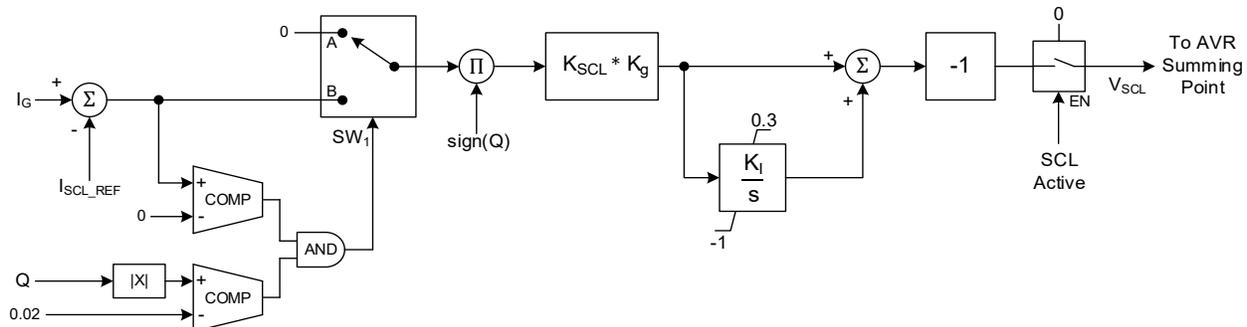
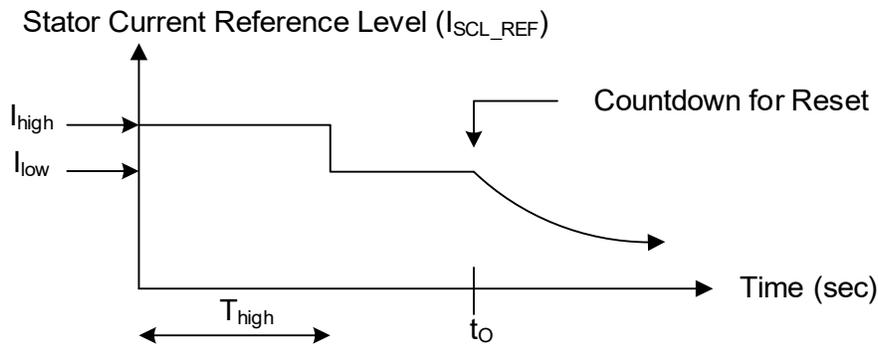

Figure 11-19. Per-Unit Block Diagram for the Stator Current Limiter
Figure 11-20. Stator Current Limiter Reference
The stator current limiter (SCL) modifies the excitation level based on whether vars are being absorbed (leading) or exported (lagging) by the synchronous machine. Figure 11-19 shows the model of the SCL. The SCL makes up the outer loop, and the voltage regulator makes up the inner loop. The PI-type controller is used to achieve a desired response. The sign (Q) is defined as positive (+1) for the overexcitation condition and negative (-1) for the underexcitation condition.
The SCL current reference (I_{SCL_REF}) is generated based on a two-step waveform with a high current level (I_{high}), a high current time (T_{high}), and a low current level (I_{low}) as shown in Figure 11-20.
The SCL loop becomes inactive if stator current lower than the low current level (I_{low}) is required by an external event. It is illustrated at time t_0 in Figure 11-20. A typical value of K_{SCL} in the first gain block of Figure 11-19 is 0.00833.